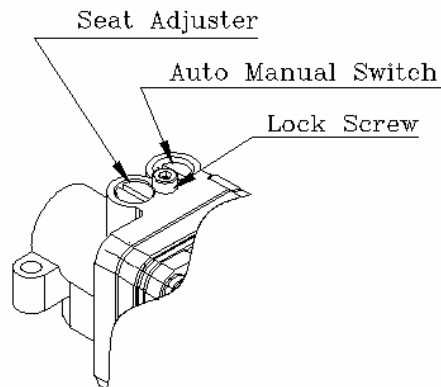

Fig.14
2. When produced, RTX-1200 series is set at "A(Automatic)". If user prefers the positioner's setting as "M (Manual)," the setting can be changed by turning the switch counter-clockwise. **Fig. 14**
4. If OUT2 in single acting actuator or double acting actuator is used, A/M Switch will not operate. **Fig.14**